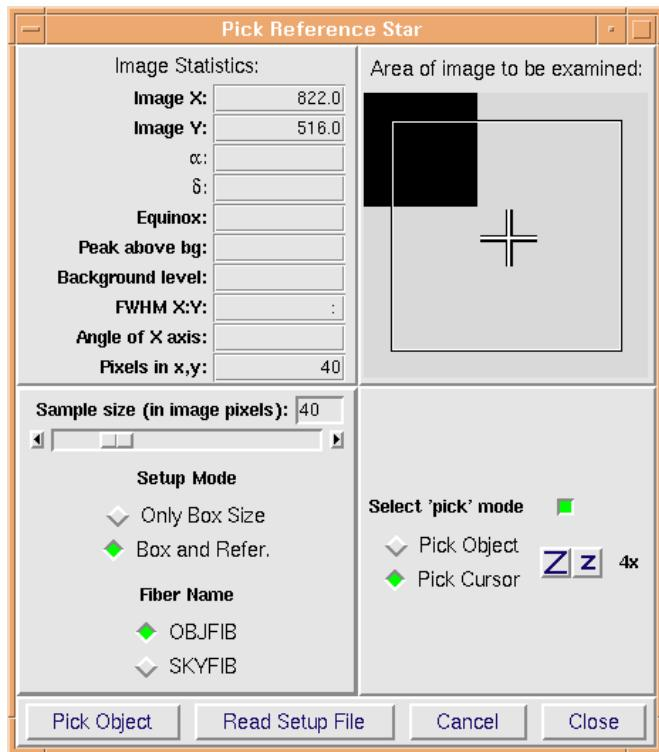

Figure 6.1: Window to set FEROS fibre reference position Pick reference star. Select checkbox Pick Cursor.
- Open or activate window Pick reference star (Fig. 6.1, p. 52).